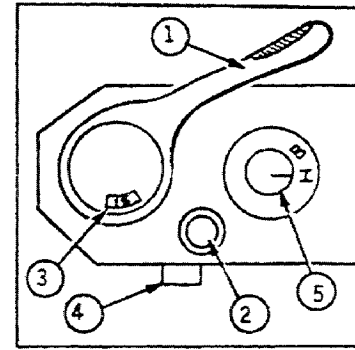

Figure 1-4. Left side.
a. Film Advance Lever (fig 1-4).
① - advances the film and cocks the shutter in readiness for the next exposure. Shutter Release Button ② - operates the shutter and fires electronic flash in synchronization. Exposure Counter ③ - shows how many frames have been exposed. Indicates numbers from -2 to 37. Automatically resets to -2 when camera back is released. Double Exposure Button ④ - allows the shutter to be cocked for multiple exposure without moving the film. Shutter Knob ⑤ - rotates as shutter is cocked (clockwise) and released (counter-clockwise). Acts as a selection for "I" and "TB" settings.